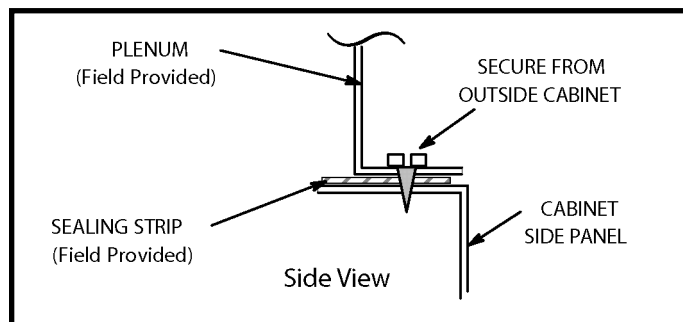

Figure 17
1. Bottom edge of plenum should be flanged with a hemmed edge (See Figure 17 or 18).